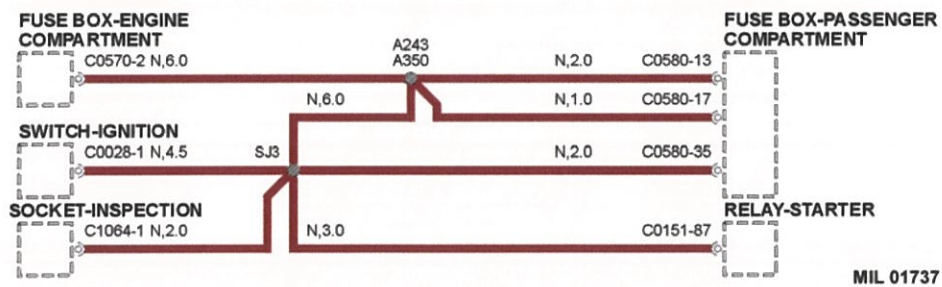

Fig 3 Power distribution
- 8.2 Wire length (Power and Earth distribution only) is the length of wire in millimetres. This can be used to locate internal harness splices; look for the shortest wire between the joint and connector. For example, it can be seen that C0570-2 is 730 mm from joint A350 (refer to Fig 3).